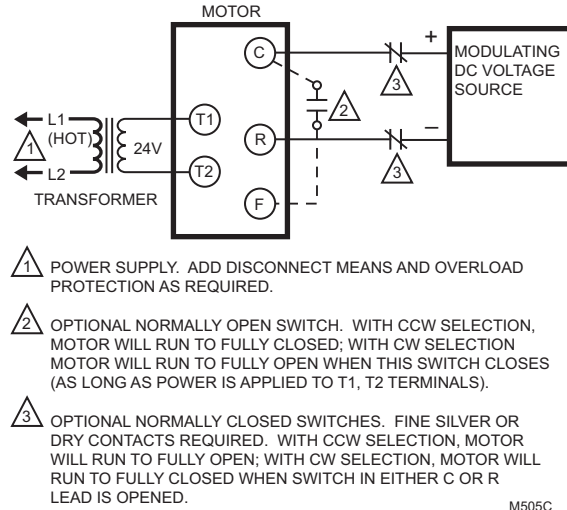

Fig. 4. Typical system wiring for Q7130A Interface Module and M91XX Modutrol Motor.
4. See Fig. 4 for typical system wiring.